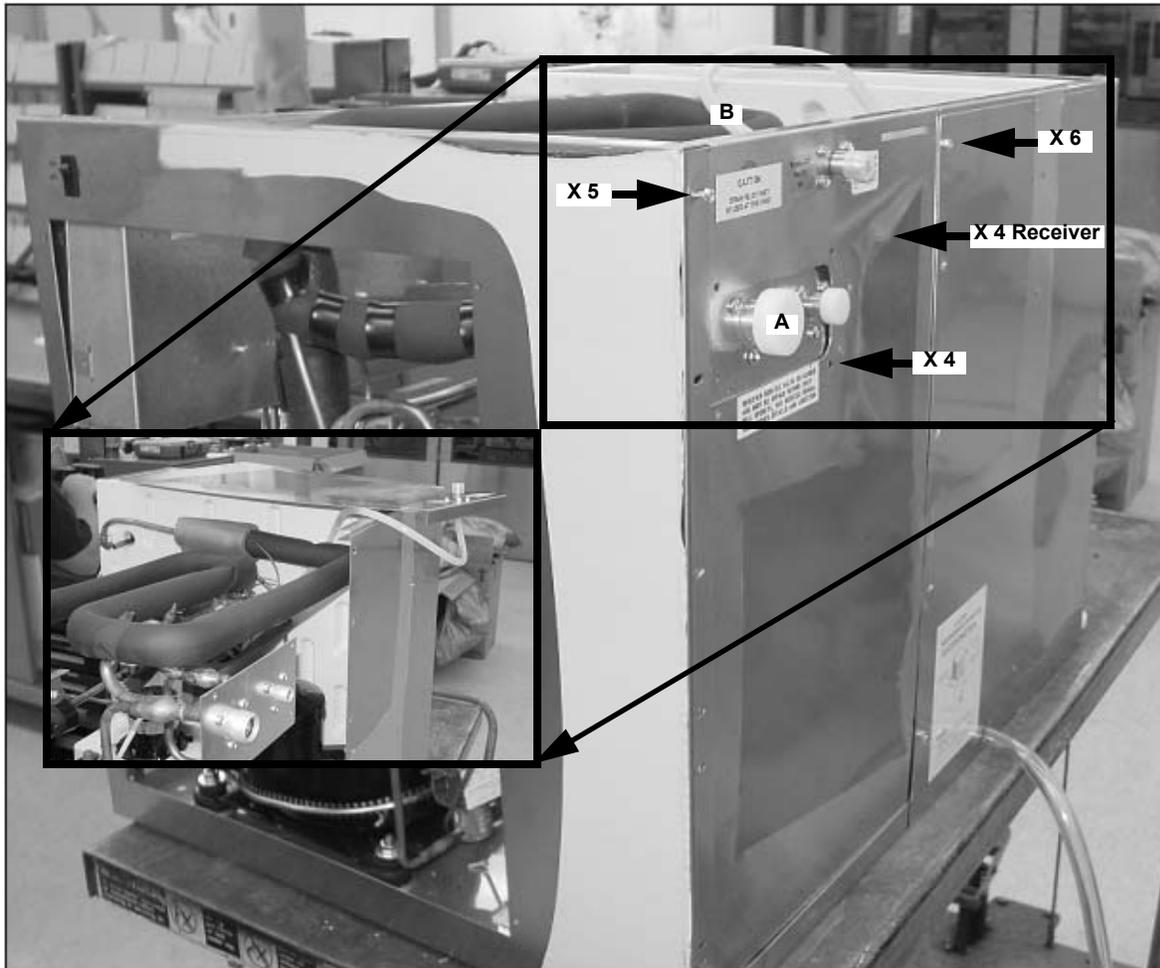

Figure 21.
Remove the 4 screws on the back panel at the receiver bracket (Figure 21).
16. Clip the wire tie securing the internal water line (B) to the suction line assembly. Remove the 6 screws attaching the back panel to the left wrap panel (Figure 21).